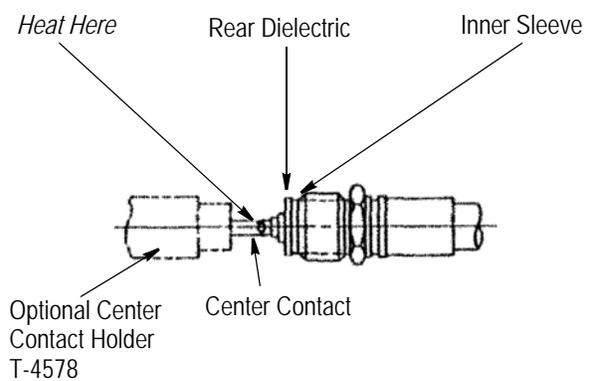

Figure 4
2. Heat the center contact and push it over the center conductor of the cable to rest firmly against the rear dielectric. See Figure 4.